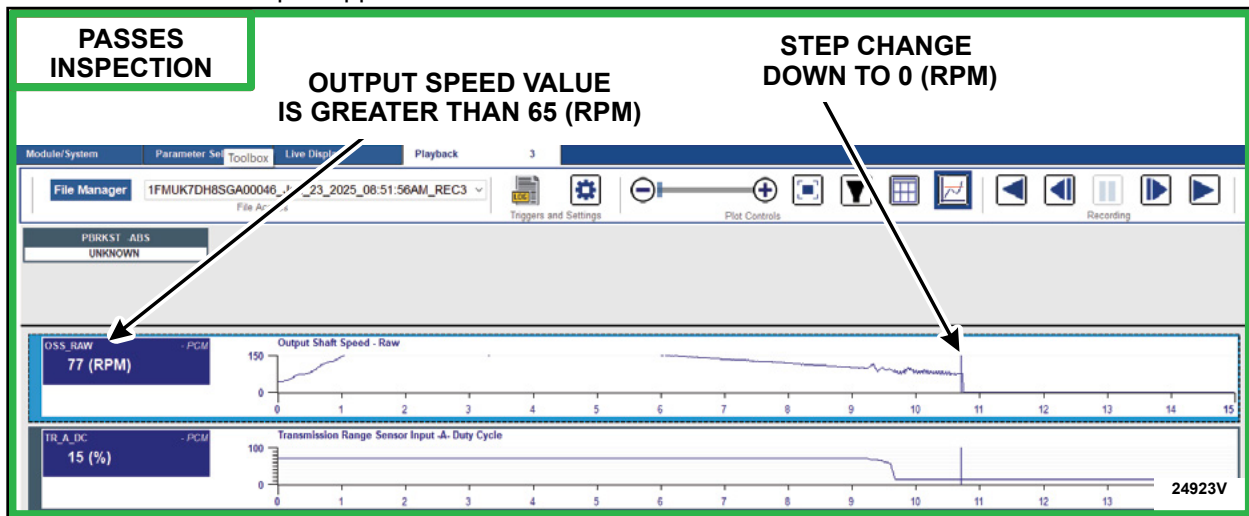

FIGURE 9
23. Did the output speed decrease in a step change from a speed of 65 rpm or above down to 0 rpm in BOTH tests? See Figures 9 through 11.